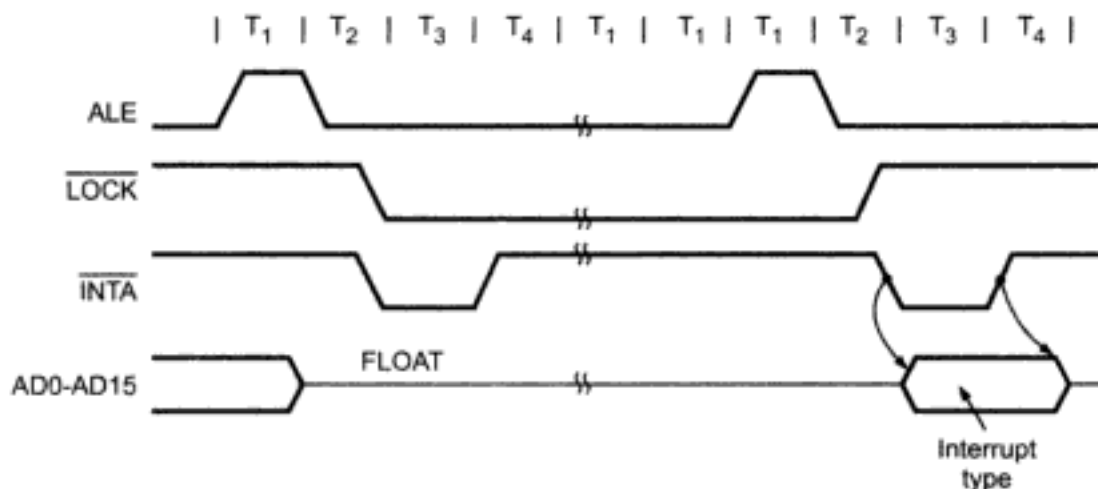

Fig. 8.3 Interrupt acknowledge machine cycle
1. The 8086 first does two interrupt acknowledge machine cycles as shown in the Fig. 8.3 to get the interrupt type from the external device. In the first interrupt acknowledge machine cycle the 8086 floats the data bus lines $\text{AD}_0\text{-AD}_{15}$ and sends out an $\overline{\text{INTA}}$ pulse on its $\overline{\text{INTA}}$ output pin. This indicates an interrupt acknowledge cycle in progress and the system is ready to accept the interrupt type from the external device. During the second interrupt acknowledge machine cycle the 8086 sends out another pulse on its $\overline{\text{INTA}}$ output pin. In response to this second $\overline{\text{INTA}}$ pulse the external device puts the interrupt type on lower 8 bits of the data bus.